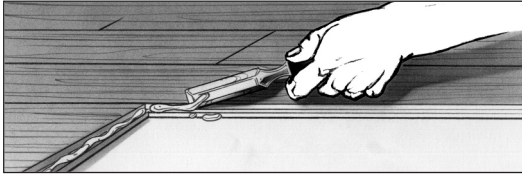

Fig. 48
6. Use a piece of countertop laminate or similar material to protect underlayment. Clean factory edges using a sharp chisel (Fig. 48). Remove glue using a tongue and groove cleaner tool or a small piece of laminate with a factory tongue and groove.